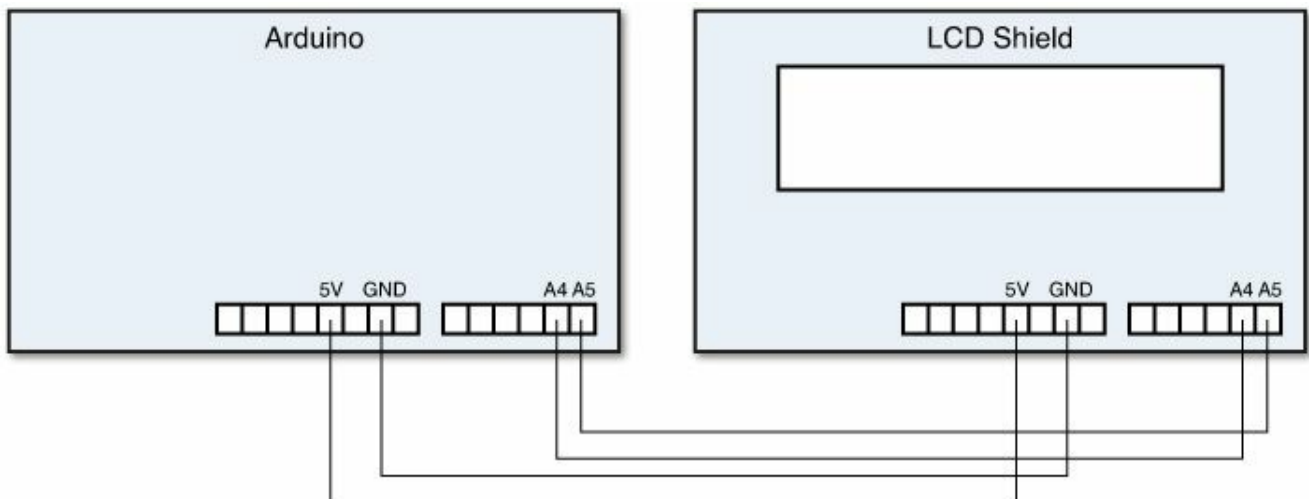

FIGURE 20.5 Connecting the LCD shield remotely to the Arduino Uno.
- ▶ The other method is to remotely connect the LCD shield board to the Arduino. Because the LCD shield uses the two I2C pins to communicate with the Arduino, you only need to connect four wires (the two I2C pins, the ground pin, and the +5V pin) between the LCD shield and the Arduino. Figure 20.5 demonstrates this.